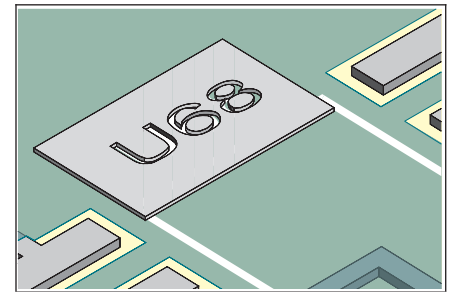

Figure 1 Replace legend using a stencil.
3. Select the appropriate stencil or have a special stencil made up. (See Figure 1.)